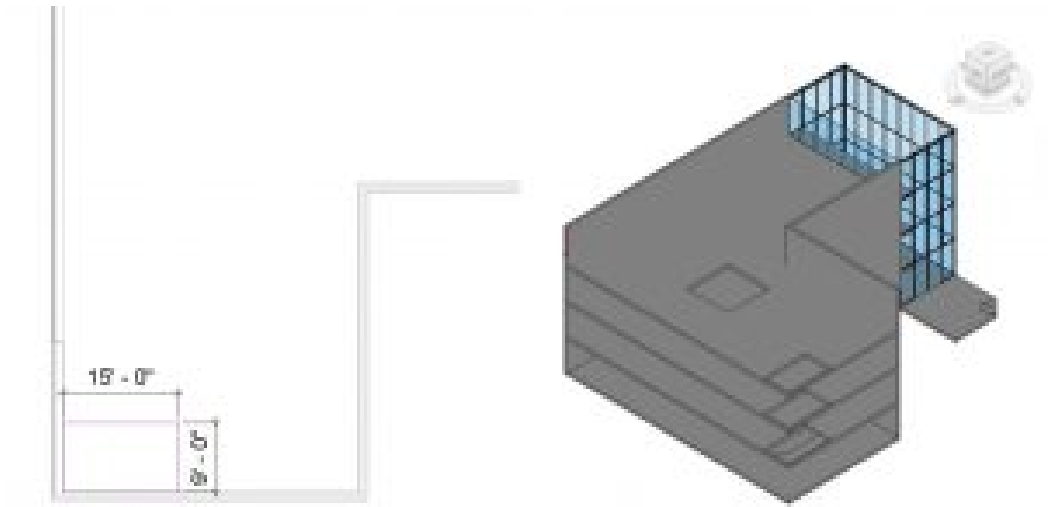

Figure 3.15 Shaft Opening shown in plan view and 3D view
4. Draw a 15ft X 9ft as shown in Figure 3.15
4. Select the straight wall on the right of the curved wall as shown in Figure 3.15